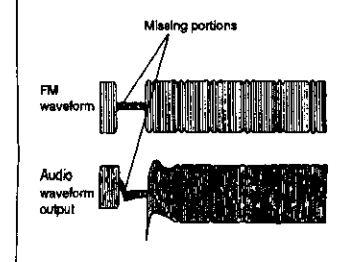

Fig. 3-4-2
- 6 Connect TP2A (the FM waveform output) and the audio output terminal to the oscilloscope, external Trig, to TP2H, and check if the missing portions of the FM waveform and that of the audio waveform are within the specified value (field). (Refer to Fig. 3-4-2.)